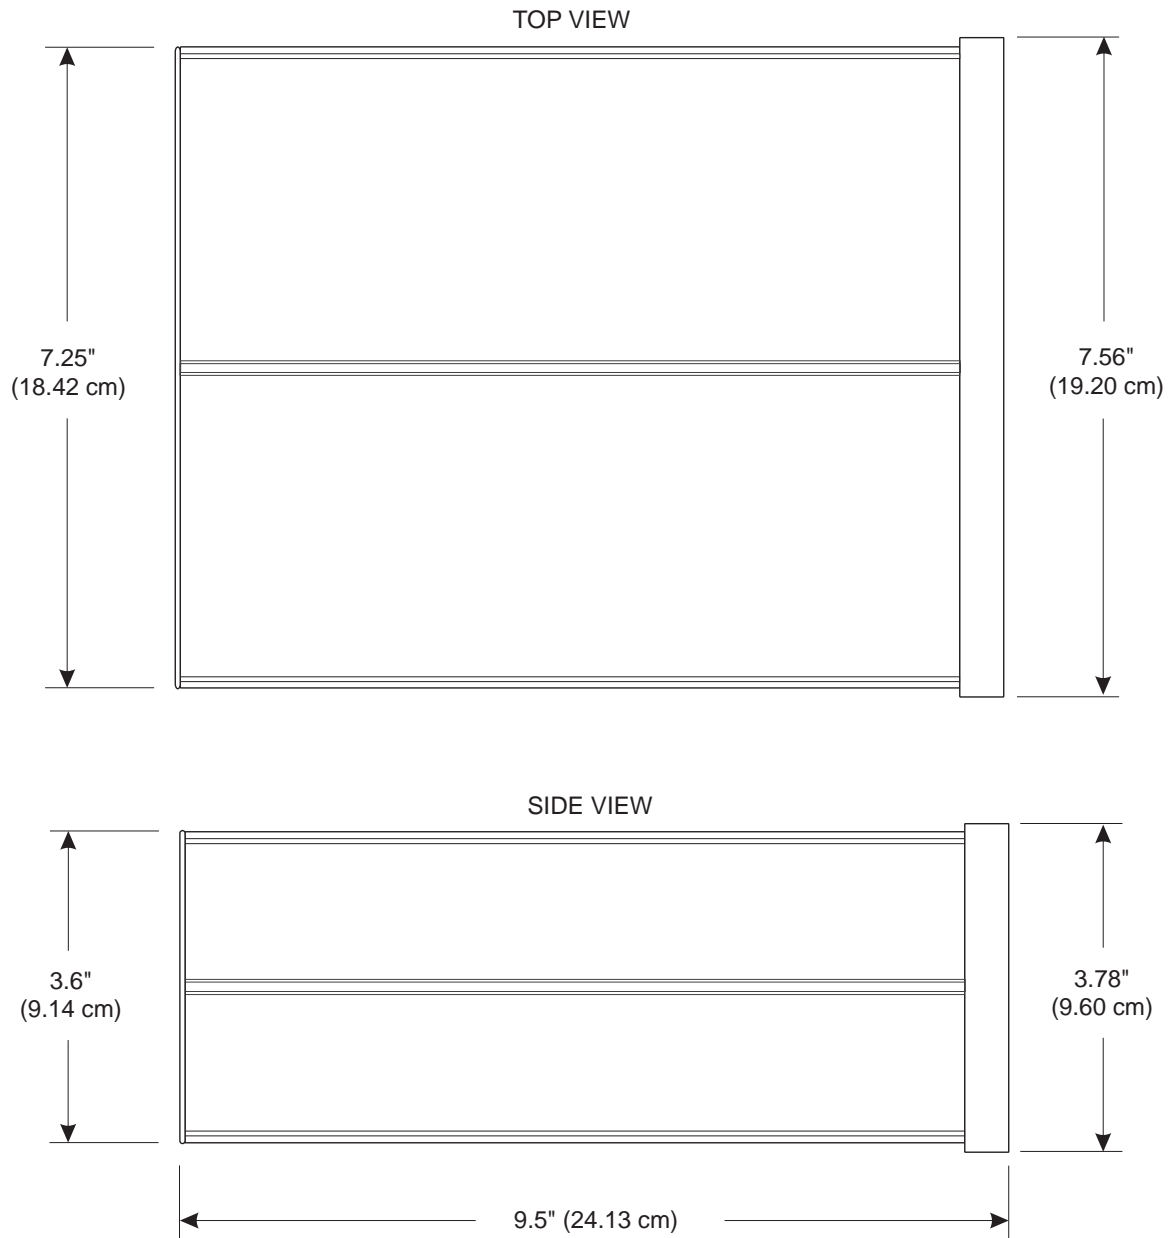

Figure 6.1 - Dimensional Outline
7.56" wide x 6.00" high x 9.50" deep with optional battery pack (19.20 cm x 15.24 cm x 24.13 cm). (See figure 6.1)